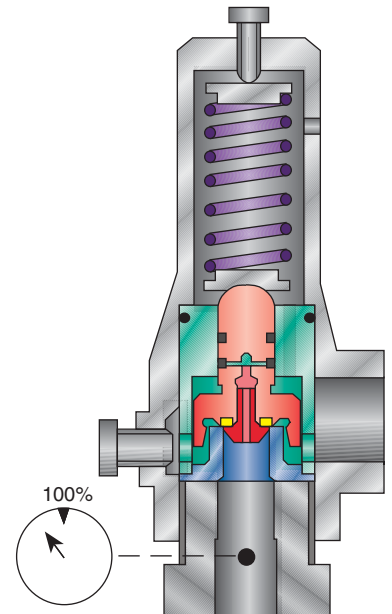

Figure 10
4. When the full rated capacity is required, the Type 81P will exhibit a blowdown of approximately 20 percent (see Figure 10, page 49). When full relieving capacity is not required, the magnitude of blowdown will become progressively smaller. If the system pressure does not significantly rise after reaching set pressure, the valve will reclose at or near the set pressure, similar to the operation of a modulating pilot operated safety relief valve.